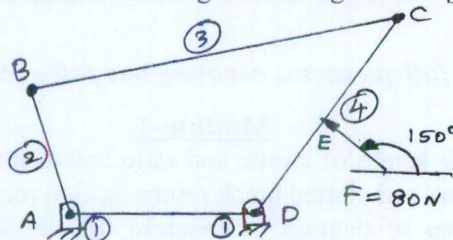

Fig.Q4(a)
- 4 a. A four-link mechanism with the following dimensions is acted upon by a force 80 N with an inclination of 150° on the link DC. $AD = 500$ mm, $AB = 400$ mm, $BC = 1000$ mm, $DC = 750$ mm, $DE = 350$ mm. Determine the input torque T on the link AB for the static equilibrium of the mechanism for the given configuration. [Refer Fig.Q4(a)]